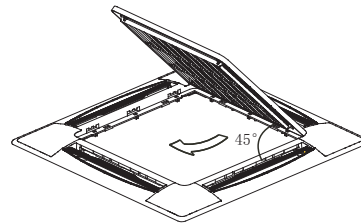

Fig.4-13
2) Draw the grill up to an angle of about 45 degrees, and remove it. (Refer to Fig.4-13)